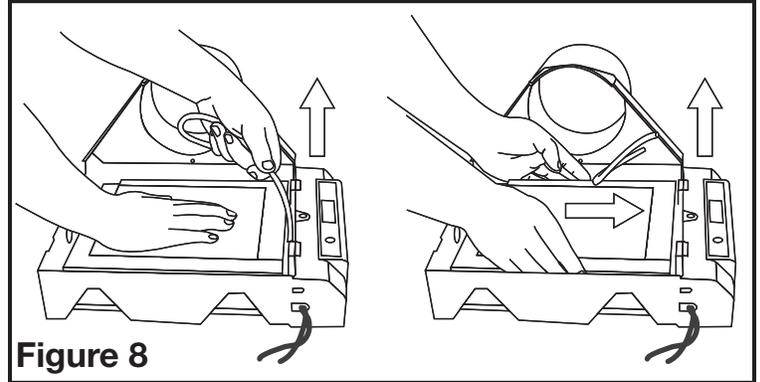

Figure 8
2. Remove all loose components packaged inside and any packaging. With a firm pull, disconnect the water tube from the water nozzle and remove the evaporator pad assembly by sliding it toward the top of the humidifier, then lifting it out (**Figure 8**).
If you have not already done so, remove the humidifier cover, which is secured in place with a 10-24 plastic thumb screw at the bottom of the cover. Tilt the cover away from the body slightly (approx. 1/2") and then lift up the cover to free the hooks at the top of the unit. Remove all loose components packaged inside and any packaging. With a firm pull, disconnect the water tube from the water nozzle and remove the evaporator pad assembly by sliding it toward the top of the humidifier, then lifting it out (**Figure 8**). The humidifier comes with a mounting template. Ensure the cabinet is installed level for proper operation.